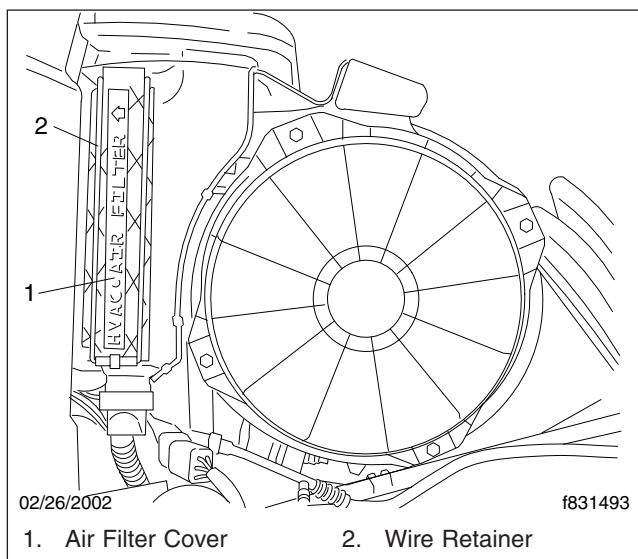

Fig. 4, HVAC Air Intake Plenum, Blend Air
2. Lift the wire retainer on the air filter cover up and over the upper edge of the cover, and pull the wire retainer down. See **Fig. 4**.